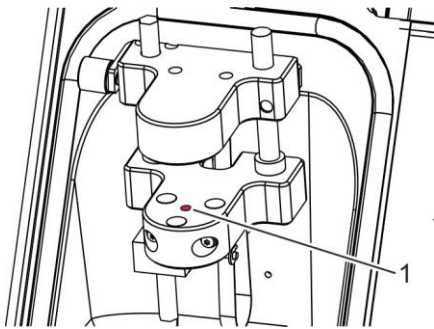

Fig. 27: Inserting the watch underlay
1. Place the correct watch underlay in the opening (Fig. 27/1) provided for that purpose.